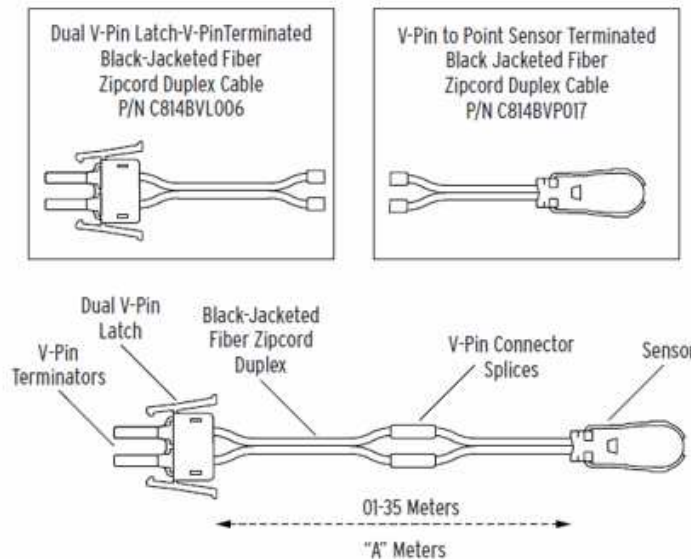

Figure 2 - Point Sensor Assembly with two V-pin Splice Connectors
- 2) Point Sensor with two V-pin connectors as shown in figure 2.